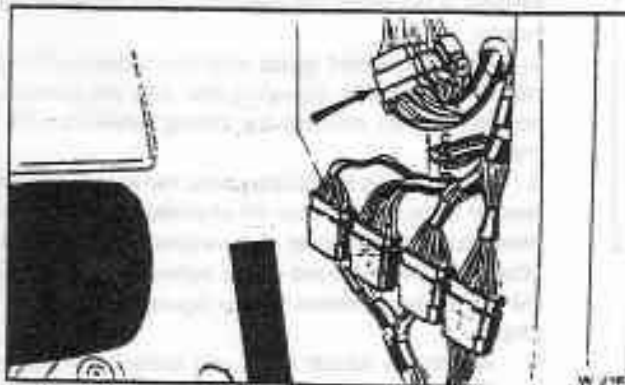

Fig. S3-5 Position of door loom plugs and sockets
3. Disconnect the door loom plugs and sockets (see fig. S3-5).